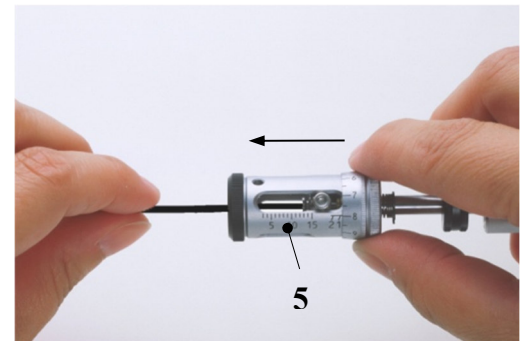

Fig. 6 Close the blades
- Slowly release the stripping head **(5)**. The blades will close up to the outer diameter of the cable. **(Fig. 6)**